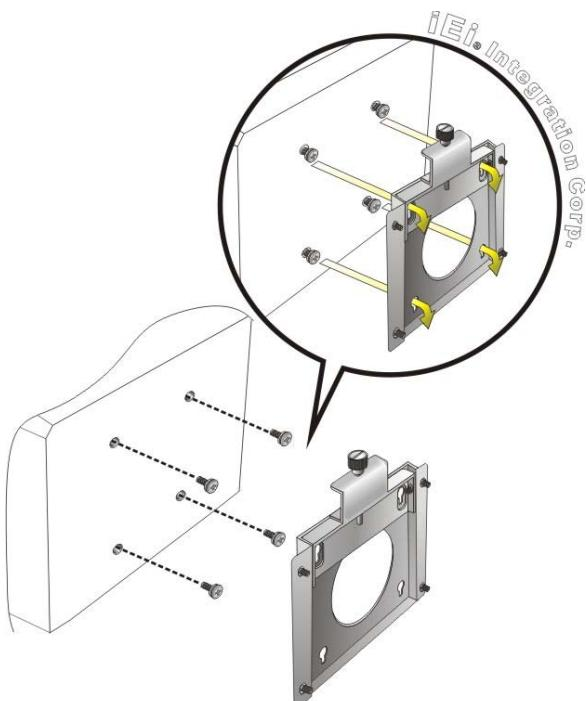

Figure 3-16: Chassis Support Screws
Step 6: Insert the four monitor mounting screws provided in the wall mount kit into the four screw holes on the real panel of the flat bezel panel PC and tighten until the screw shank is secured against the rear panel (**Figure 3-16**).
Step 8: Carefully insert the screws through the holes and gently pull the monitor downwards until the monitor rests securely in the slotted holes (**Figure 3-16**). Ensure that all four of the mounting screws fit snugly into their respective slotted holes.